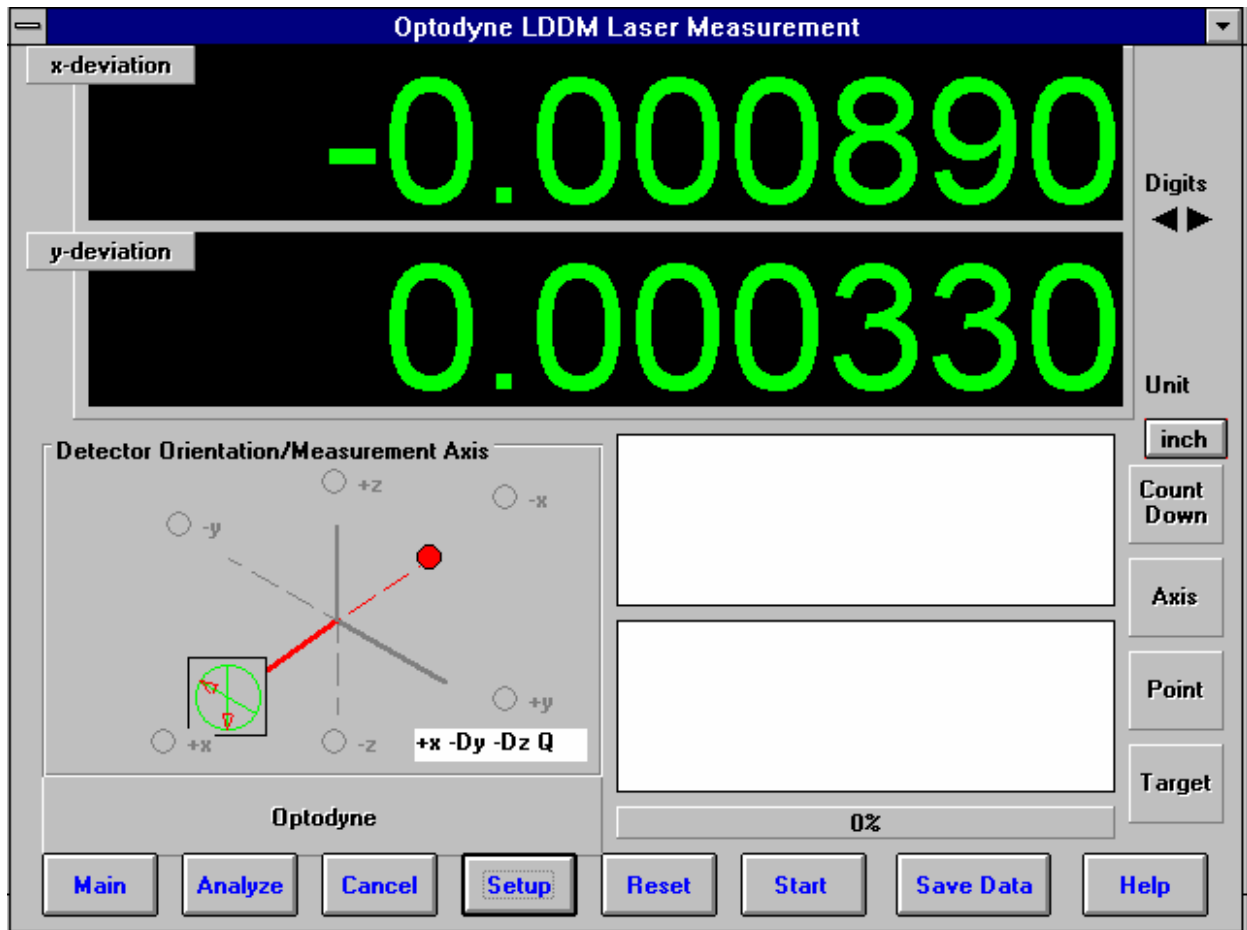

Fig. 10-7 Squareness Main Display
10.6.1 Squareness Measurement Main Display (Fig. 10-7)
Squareness Measurement Main Display (Fig. 10-7)